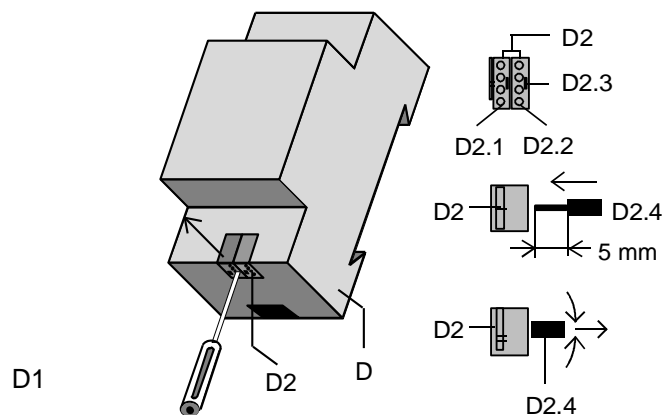

Figure 3: Connecting and disconnecting the bus wires
5.4. Slipping off bus connection blocks (Figure 3)
- The bus connection block (Figure 3, D2) is situated on the top of the device (Figure 3, D1).
- The bus connection block (Figure 3, D2) consists of two components (Figure 3, D2.1 and D2.2) with four terminal contacts each. Take care not to damage the two test sockets (Figure 3, D2.3) by accidentally connecting them to the bus cable or with the screw-driver (e.g. when attempting to unplug the bus connection block).
- Carefully put the screw-driver to the wire-inserting slit of the bus connection block's grey component and pull the bus connection block (Figure 3, D2) from the device (Figure 3, D1).
5.5. Slipping on bus connection blocks (Figure 3)
- Slip the bus connection block onto the guide slot and press the bus connection block (Figure 3, D2) down to the stop.
5.6. Connecting bus cables (Figure 3)
- The bus connection block (Figure 3, D2) can be used with single core conductors $\varnothing 0,6 \dots 0,8$ mm.
- Remove approx. 5 mm of insulation from the conductor (Figure 3, D2.4) and plug it into the bus connection block (Figure 3, D2) (red = +, black = -).
5.7. Disconnecting bus cables (Figure 3)
- Unplug the bus connection block (Figure 3, D2) and remove the bus cable conductor (Figure 3, D2.4) while simultaneously wiggling it.